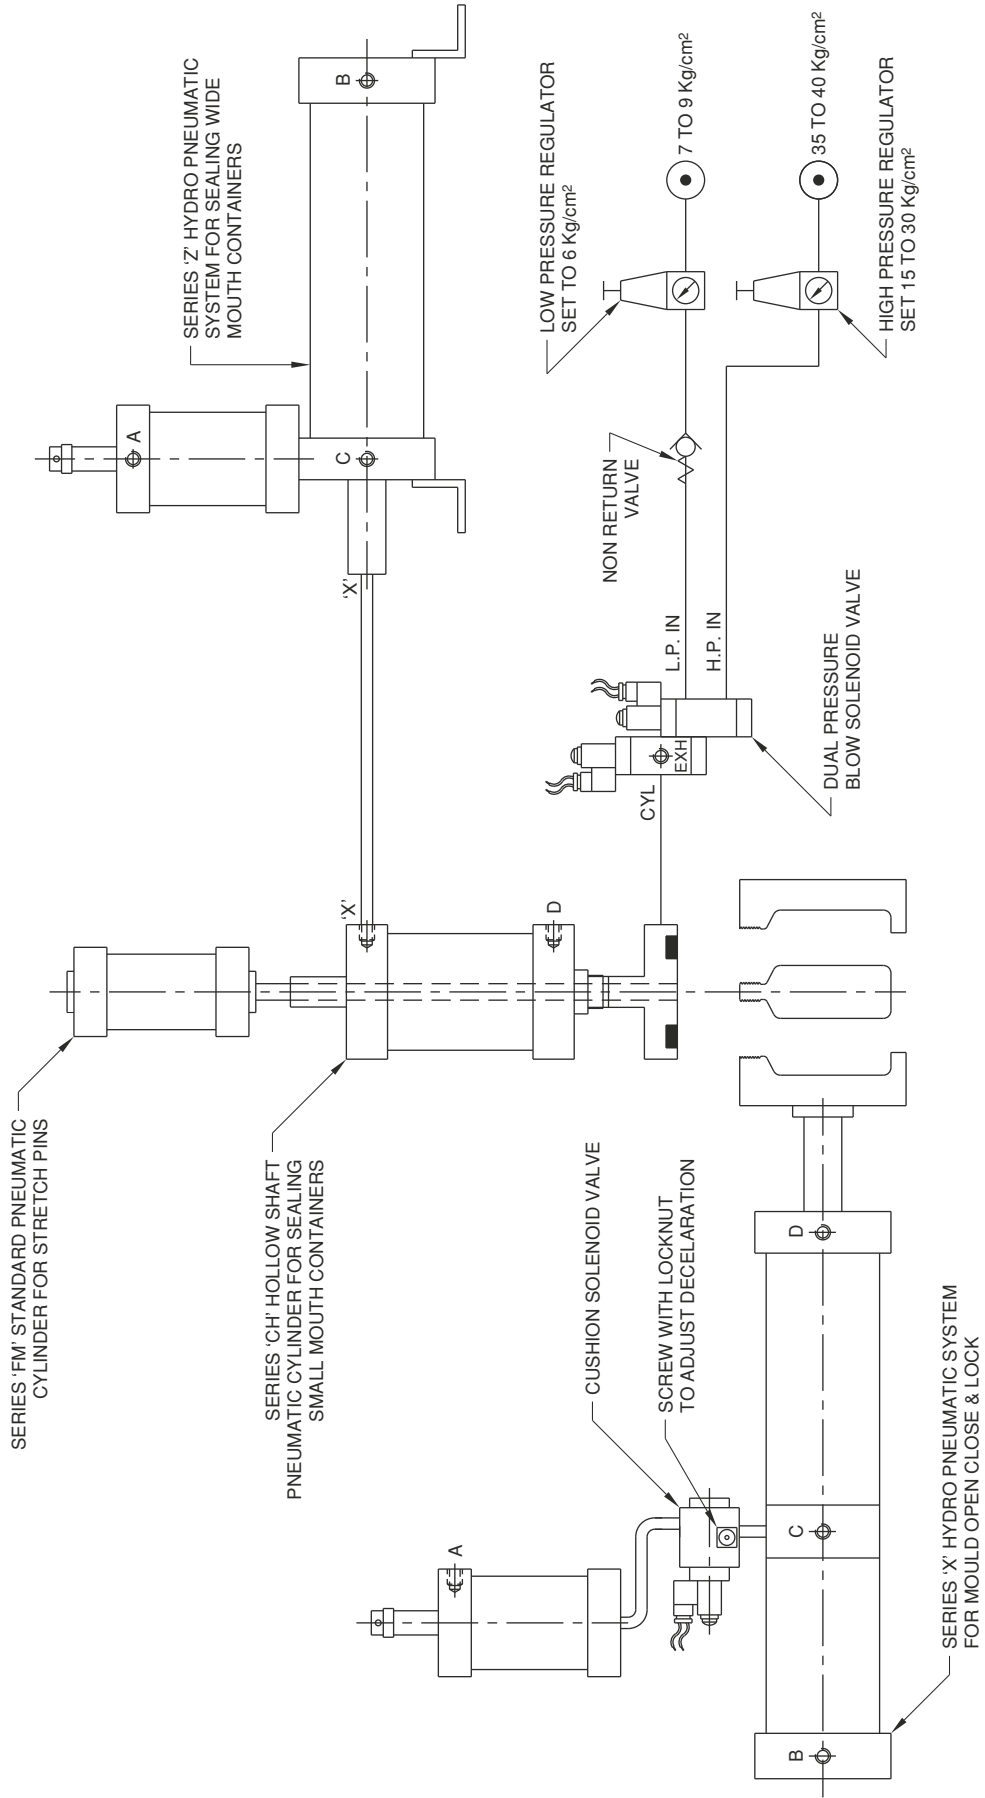

FIG. 1
- 1.1 The general layout of major pneumatic components used in stretch blow moulding machines is given in **Fig 1**.